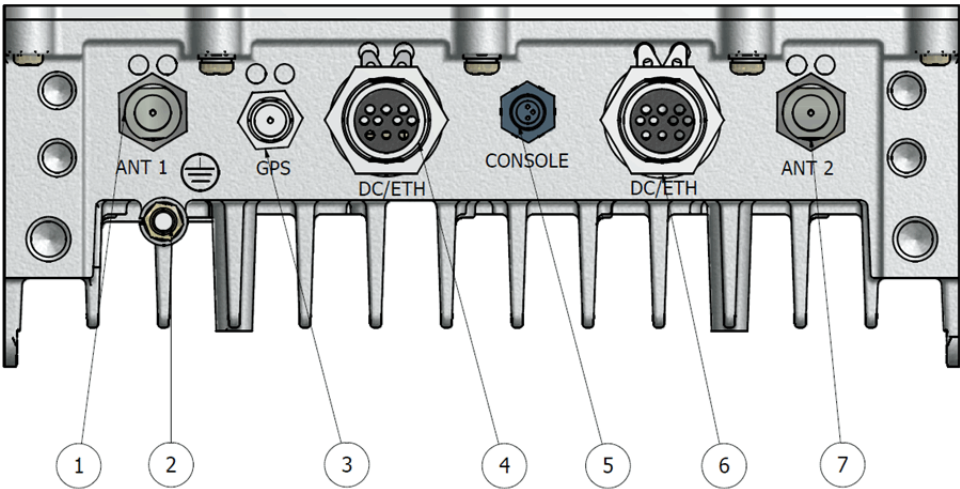

Figure 9: Copper Ethernet Port Option
2. Connect the other end to port 6 on the WIN7000 unit as shown in Figure 9.